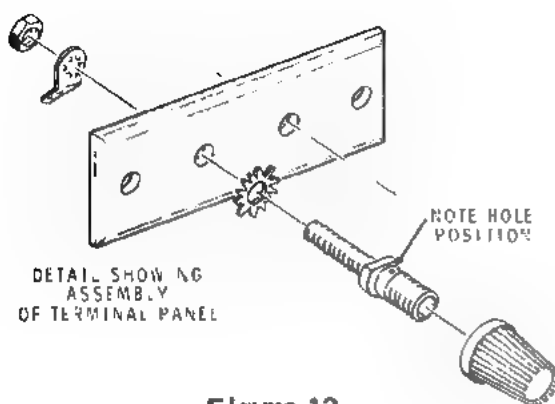

Figure 12
- () Mount the binding posts on the terminal board insulator as shown in Figure 12. Position the binding post red and black caps and the solder lugs as shown in the Pictorial.